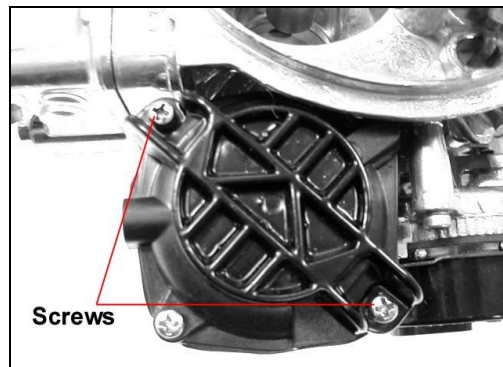

Figure 10
8. Tighten the two Phillips screws securely and reinstall the flame arrester, as shown in **Figure 10**.